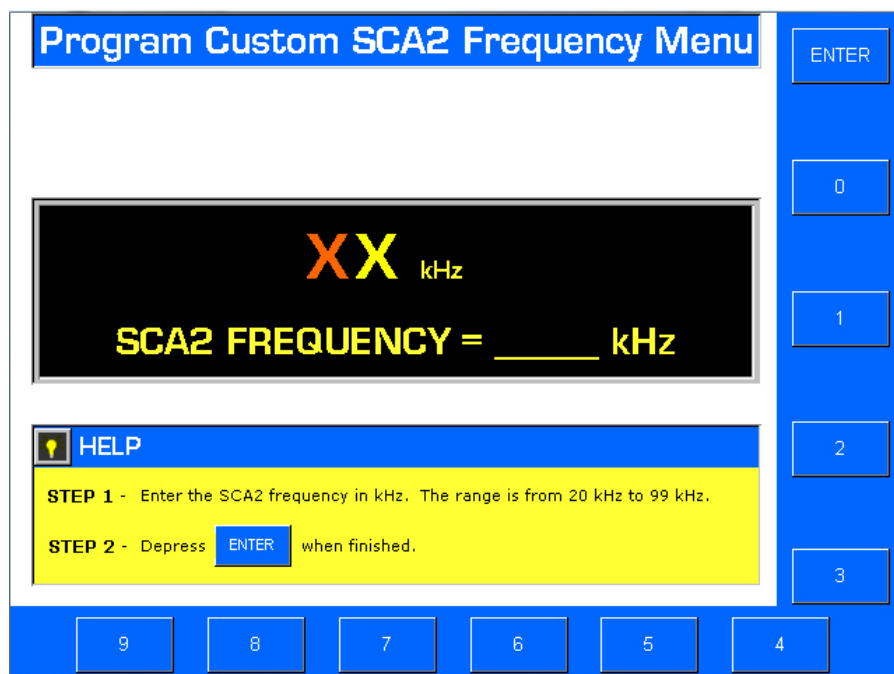

Figure 3-25. INTERNAL PROGRAM CUSTOM SCA2 FREQUENCY MENU
1. Select CUSTOM FREQ. The Internal SCA2 Custom Frequency Menu will appear (refer to Figure 3-25).